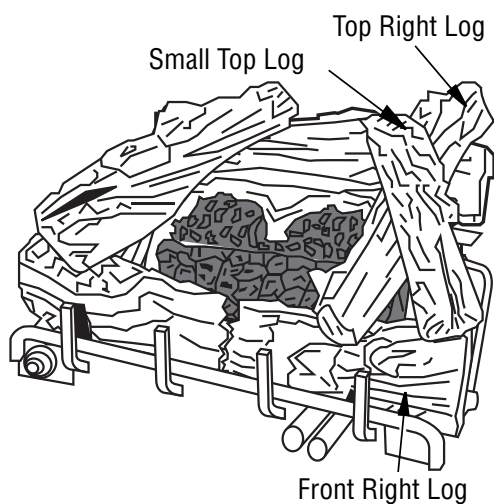

Figure 27 - Installing Log
- Place the small top right log as shown in **Figure 27**. The bottom of the log is shaped to fit onto the recessed areas of the top right log and the front right log. The recessed areas are painted yellow.